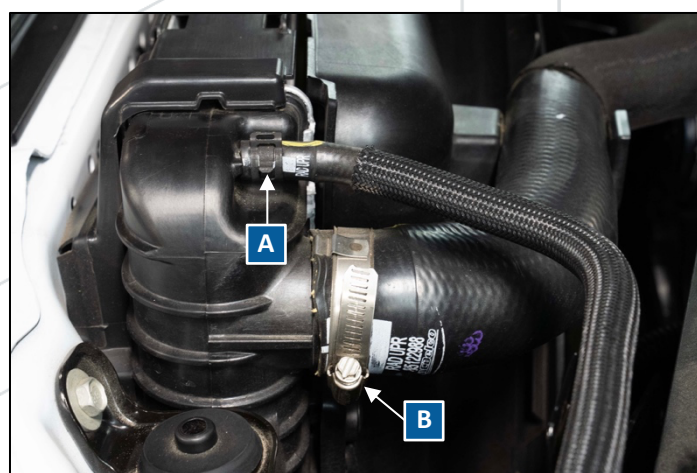

Figure 3: Upper Radiator Hose Clamps
- a. Remove upper radiator hose from driver's side with spring clamp on engine side and 8mm hex head worm clamp on radiator (labeled as B in Figure 3).
- b. Remove radiator bleed hose with spring clamp at radiator and set to the side (labeled as A in Figure 3).